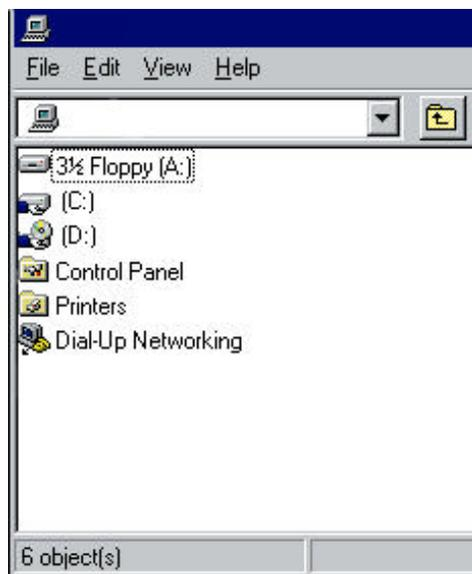

Figure 1: My Computer Window
2. Insert the Oxygen CD-ROM into the CD-ROM drive on your computer. Double-click on the *My Computer* icon found in the upper left corner of your desktop. The My Computer window appears and should look similar to Figure 1.